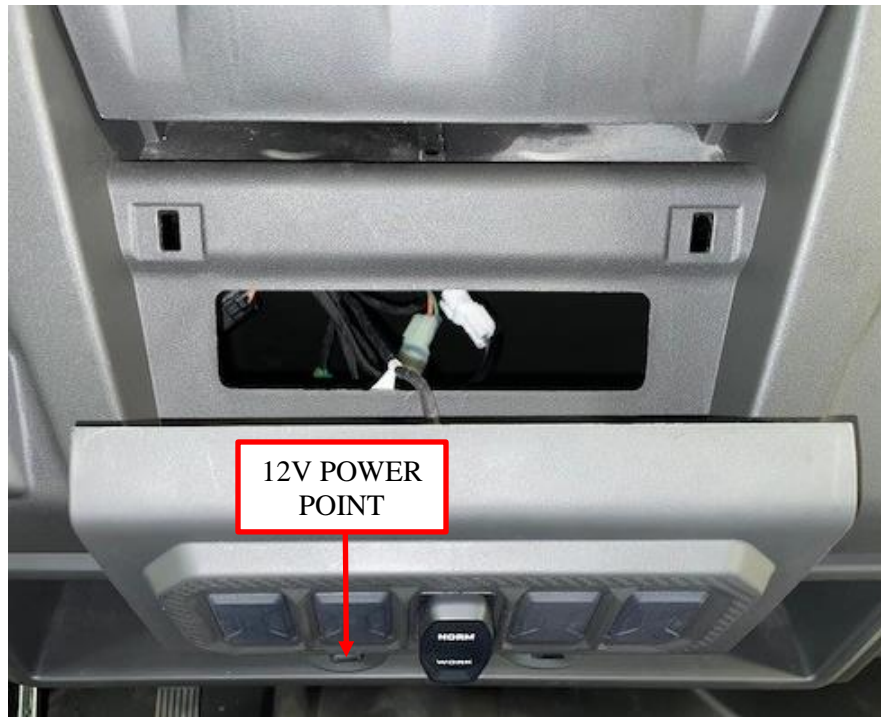
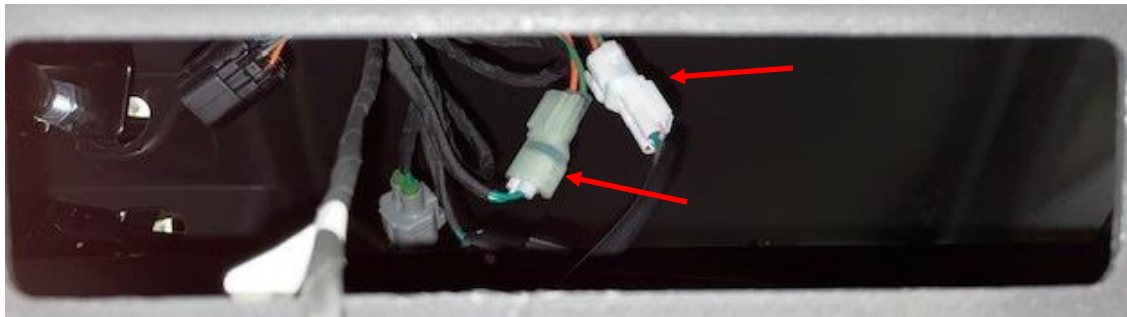

Figure 16: Connect the chassis harness to 12V power point connectors.
Figure 17: Connect the mating connectors from the chassis harness to the 12V power point.
15. Connect the Audio Mini chassis harness connectors on the orange ignition wire to the connectors on the 12V power point. Match the male and female connectors from the chassis harness to the factory harness. See Figure 16 and Figure 17.